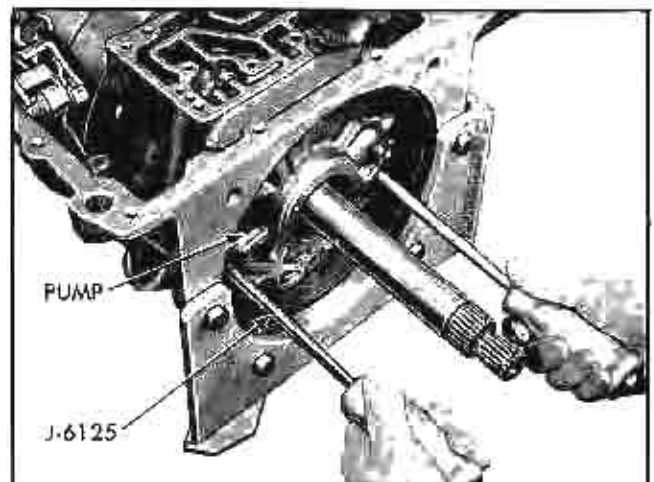

Fig. 55 Removing Pump
3. Remove three pump to case support washer head attaching screws (Fig. 55).
4. Withdraw pump assembly from case (Fig. 55), using pullers J-6125 if necessary. Two of the pump cover to pump body attaching screws must be removed to attach pullers.